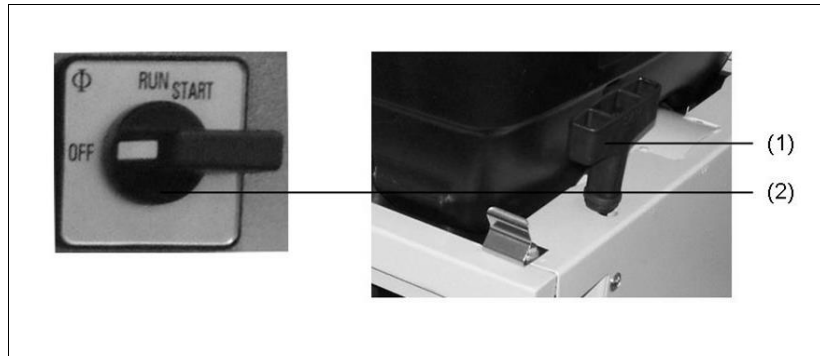

Fig. 4-3: Started by hand:
1. Move START-STOP switch (Fig. 4-3-(2)) into the "RUN" position.
2. Advance engine at the handgrip of the reversing starter (Fig. 4-3-(1)).
1. Move START-STOP switch (Fig. 4-3-(2)) into the "Start" position.